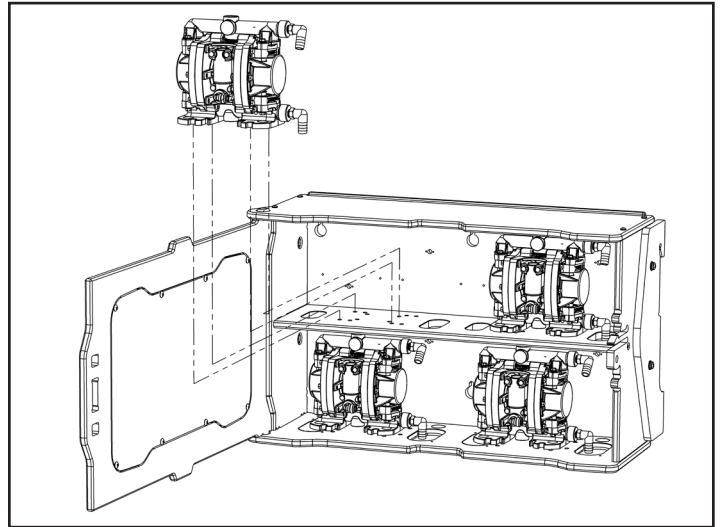

Fig. 7.1: Installing AODD pump (shown with ARO brand 1/4")
2. Using the 1/4" fasteners or similar (not included) connect each pump, using the pre-drilled holes, to either the bottom or middle shelf [Figure 7.1]